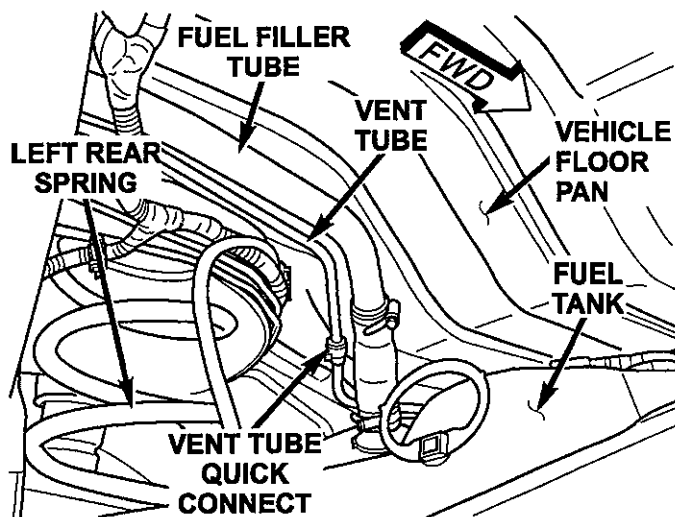

Figure 1 –Vent Tube Quick Connect
3. Disconnect the vent tube quick connect located next to the filler tube (Figure 1).